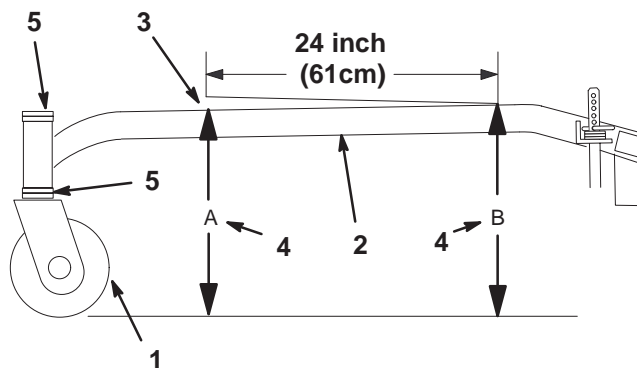

Figure 52
The carrier frame must have a pitch of a 1/4 inch (6 mm) over the length of 24 inches (61 cm) on the carrier frame (Fig. 52).
1. Measure out 24 inches (61cm) on the carrier frame (Fig. 52).
2. Measure carrier frame height at location A (Fig. 52).
3. Measure carrier frame height at location B (Fig. 52).
4. The height at location A must be a 1/4–3/8 inch (6 mm–10 mm) lower than location B (Fig. 52).
5. If the carrier frame is not correct, move caster spacers to make it a 1/4–3/8 inch (6–10 mm) pitch (Fig. 52). Move spacers from top or bottom to make the correct pitch.